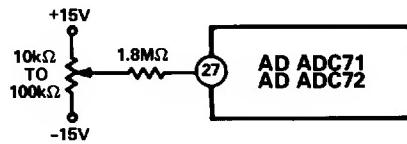
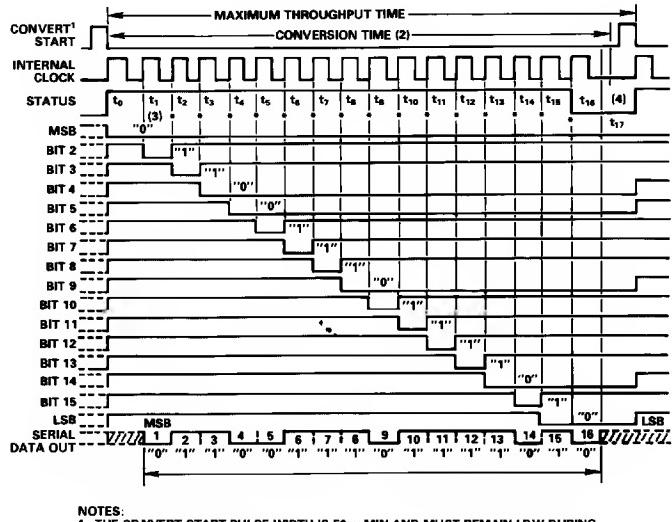

Figure 6. Offset Adjustment Circuit
Figure 8. Timing Diagram (Binary Code 0110011101111010)
The zero adjust circuit consists of a 100ppm/ $^{\circ}\text{C}$  potentiometer connected across  $\pm V_s$  with its slider connected through a 1.8M $\Omega$  resistor to Comparator Input pin 27 for all ranges. As shown in Figure 6, the tolerance of this fixed resistor is not critical, and a carbon composition type is generally adequate. Using a carbon composition resistor having a  $-1200\text{ppm}/^{\circ}\text{C}$  tempco contributes a worst-case offset tempco of  $32\text{LSB}_{14} \times 61\text{ppm}/\text{LSB}_{14} \times 1200\text{ppm}/^{\circ}\text{C} = 2.3\text{ppm}/^{\circ}\text{C}$  of FSR, if the OFFSET ADJ potentiometer is set at either end of its adjustment range. Since the maximum offset adjustment required is typically no more than  $\pm 16\text{LSB}_{14}$ , use of a carbon composition offset summing resistor typically contributes no more than 1ppm/ $^{\circ}\text{C}$  of FSR offset tempco.
The timing diagram is shown in Figure 8. Receipt of a CONVERT START signal sets the STATUS flag, indicating conversion in progress. This, in turn, removes the inhibit applied to the gated clock, permitting it to run through 17 cycles. All the SAR parallel
**Short Cycle Input:** A Short Cycle Input, pin 32, permits the timing cycle shown in Figure 8 to be terminated after any number of desired bits has been converted, permitting somewhat shorter conversion times in applications not requiring full 16-bit resolution. When 10-bit resolution is desired, pin 32 is connected to Bit 11 output pin 11. The conversion cycle then terminates and the STATUS flag resets after the Bit 10 decision ( $t_{10} + 40\text{ns}$  in timing diagram of Figure 6). Short cycle connections and associated maximum 8-, 10-, 12-, 13-, 14-, and 15-bit conversion times are summarized in Table I.